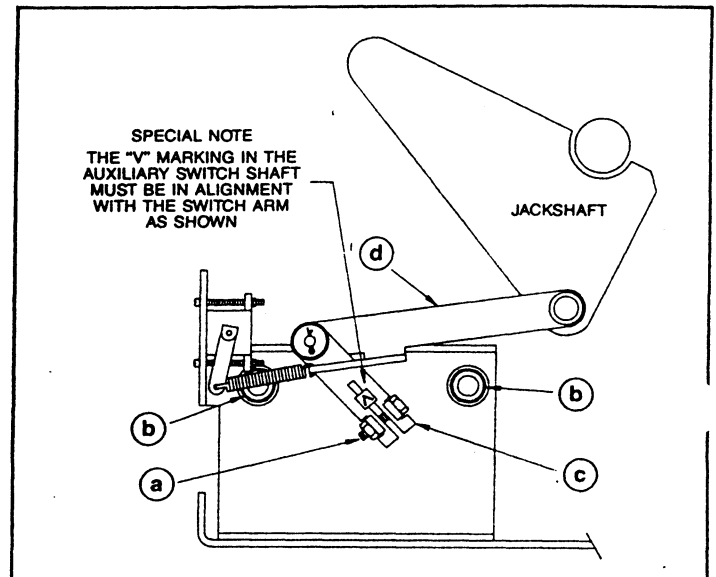

Figure 34. Auxiliary Switch Assembly with SB-12 Auxiliary Switch
- Loosen the bolt clamping the operating arm to the switch shaft (a, Figure 34).
- Remove the two bolts holding the switch to the switch mounting bracket (b, Figure 34) and remove the switch by pulling it to the left.
- Slide the operating arm onto the switch shaft, being sure that the arrow stamped on the end of the switch shaft is positioned as shown in Figure 34.